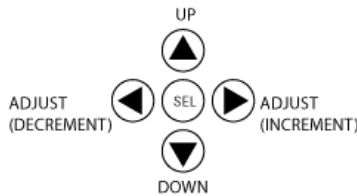

Figure 5 Menu Navigation Buttons
- Use the UP/DOWN buttons on the front panel (FIGURE 5) to navigate either forwards or backwards through the series of screens. For example, press the DOWN button from the INPUT status page to go to the OUTPUT status page.